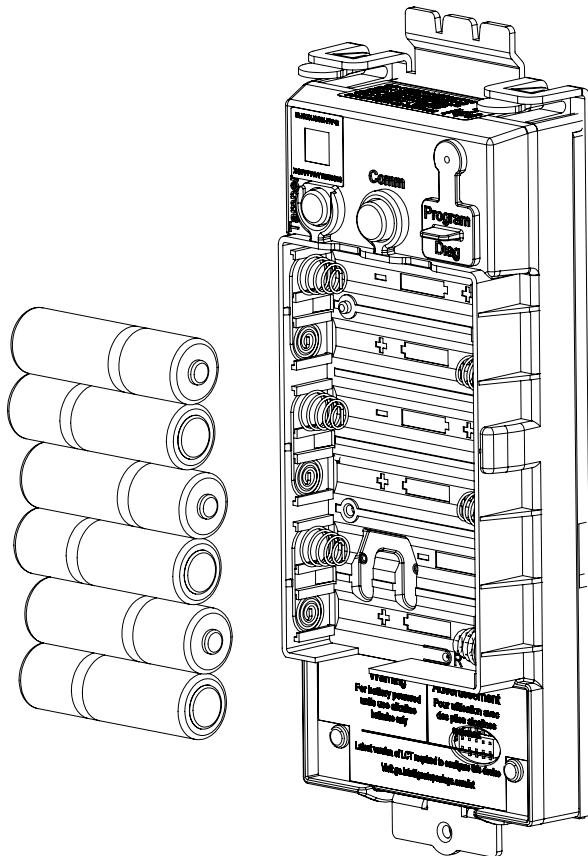

Figure 6-5B
1. Once controller is securely in place, place (6) "AA" alkaline batteries in the compartment, being careful to align polarity properly. (Figure 6-5B)